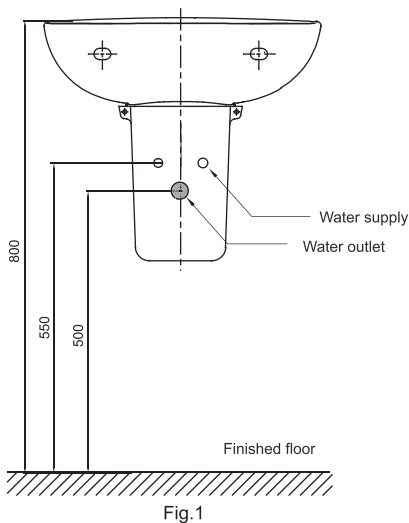

Fig.1
- Fig.1 for installing with semi-pedestal 1(CP-7532)